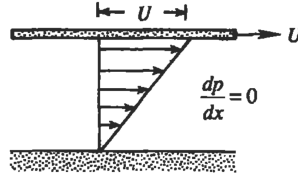

Figure 6: Plane Couette flow.
- 1) Consider a plane Couette flow of a viscous fluid confined between two flat plates at a distance b apart (Fig. 6). At steady state the velocity distribution is